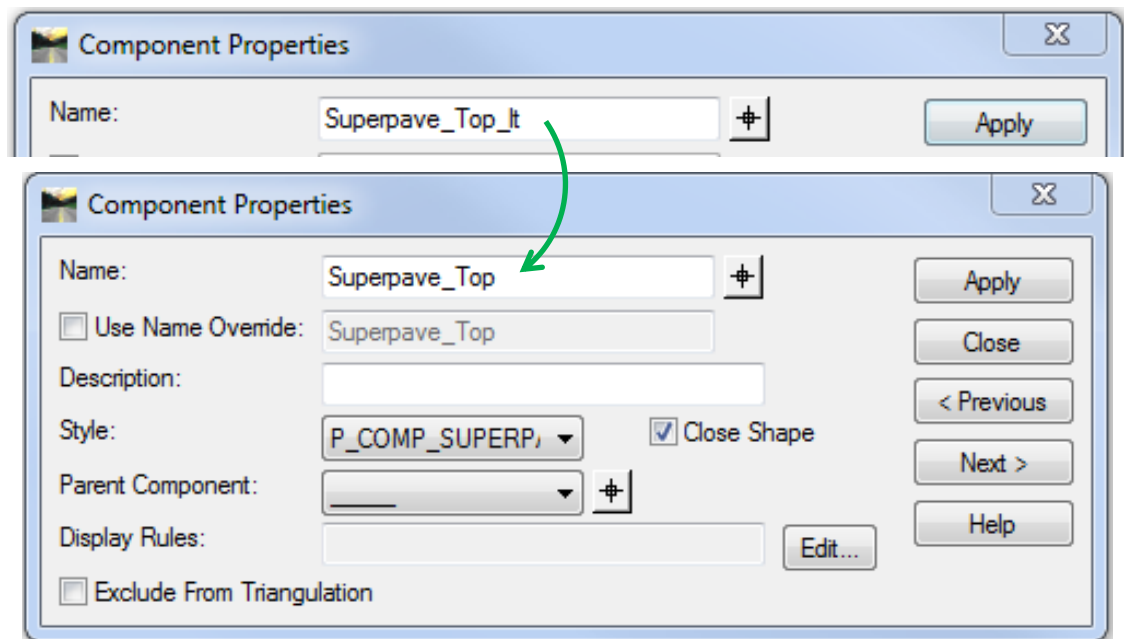

Figure 6-18 InRoads Component Properties Dialog Box Renaming Components
- K. Double click on each pavement component and edit the name. Eliminate any previous left or right designation as shown Figure 6-18. Leave the Curbing components as is.